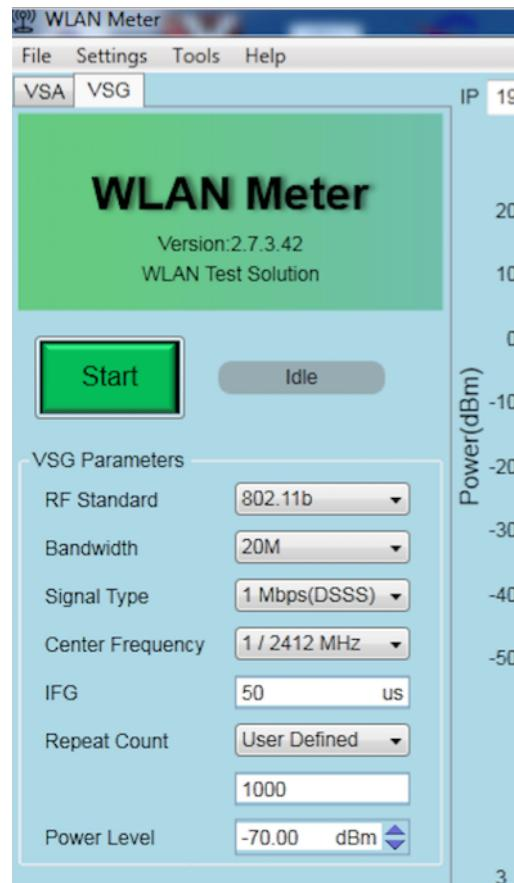

Figure 4-10. WT-200 Configuration for Test Environment #1
- Configure the VSG parameters in the WLAN Meter. Set **Signal Type** to 1 Mbps and define **Repeat Count** as 1000. WT-200 configuration for the test environment is shown in Figure 4-10.